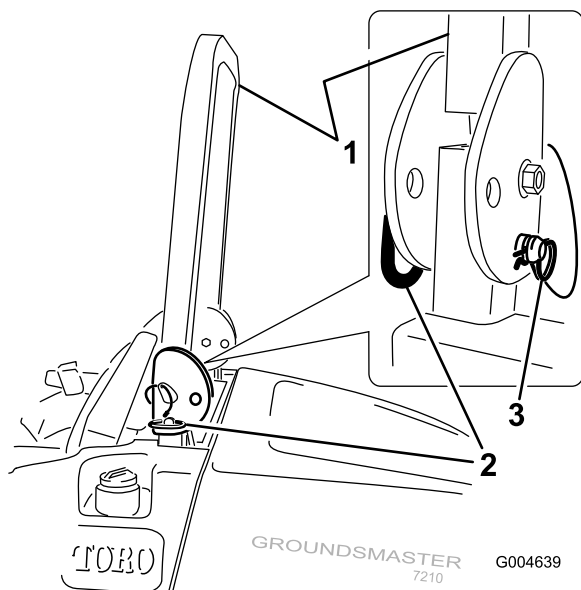

Figure 11
1. To lower the roll bar, remove the hairpin cottes, push the roll bar forward against the springs, and remove the two pins (Figure 11).
3. Install the two pins and secure them with the hairpin cotter pins (Figure 11).
4. To raise the roll bar, remove the hairpin cotter pins and remove the two pins (Figure 11).
5. Raise the roll bar to the upright position and install the two pins and secure them with the hairpin cotter pins (Figure 11).